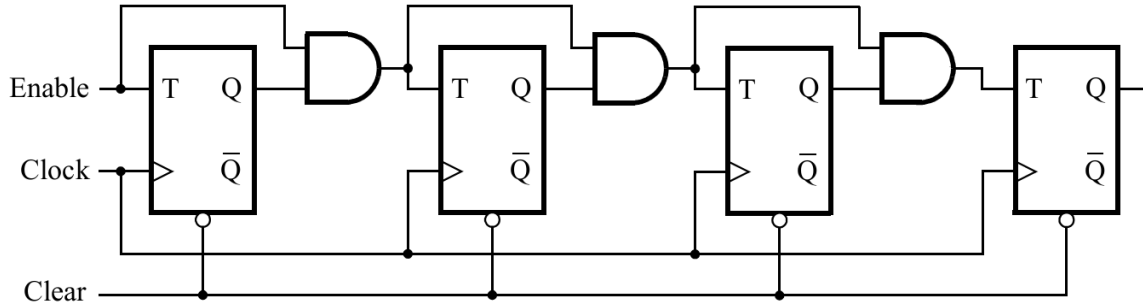

Figure 1: A 4-bit Counter
Consider the circuit in Figure 1. It is a 4-bit synchronous counter which uses four T-type flip-flops. The counter increments its value on each positive edge of the clock if the Enable signal is asserted. The counter is reset to 0 by setting the Clear signal low. You are to implement an 8-bit counter of this type.
1. Write a Verilog file that defines an 8-bit counter by using the structure depicted in Figure 1. Your code should include a T flip-flop module that is instantiated 8 times to create the counter. Compile the circuit. How many LUTs and registers are used to implement your circuit? What is the maximum frequency, f_{max} , at which your circuit can be operated?
5. Implement a 4-bit version of your circuit and use the Quartus II RTL Viewer to see how Quartus II software synthesized your circuit. What are the differences in comparison with Figure 1?